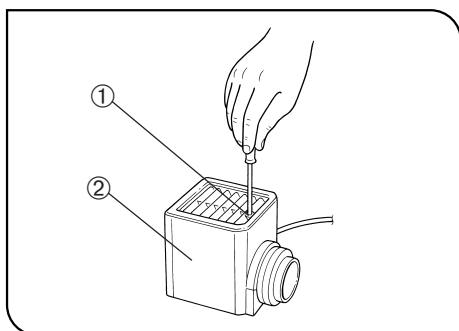

Fig. 24
(Figs. 24 - 26)
5. Attach the lamp housing from up and tighten the clamping screw ① by pushing it downward. (Fig. 24)